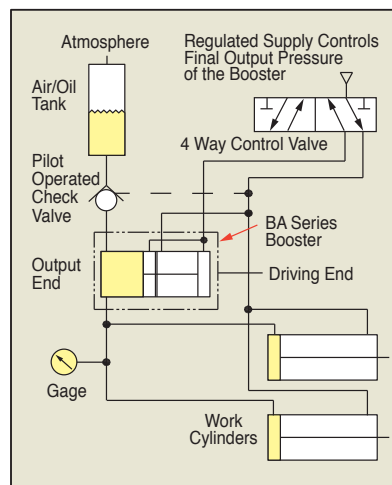

Figure 1. Booster one-shot holding circuit
One-shot Holding Cycle - The air circuit schematic in Figure 1 shows a single tank air-to-oil booster feeding two (2) clamping cylinders. The clamp-off position of the 4-way pneumatic control releases the clamp cylinders and simultaneously opens the pilot-operated check valve allowing oil to flow back into the tank.